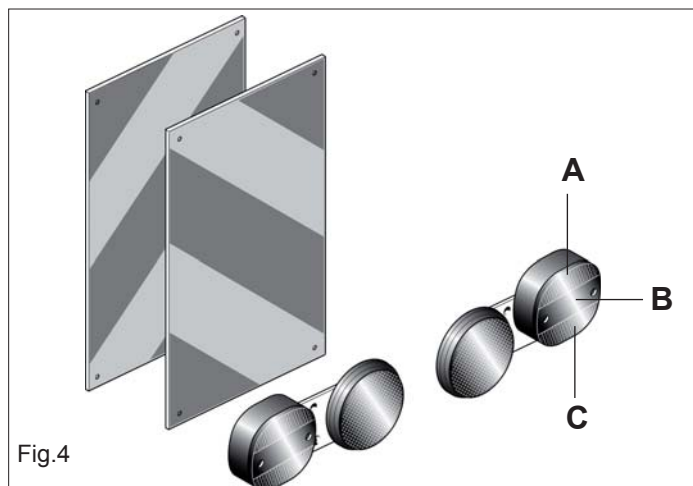

Fig.4
- 8) When the dimensions of carried or partially-carried equipment conceal the tractor's signalling and lighting devices, these must also be installed on the equipment itself, in conformity with regulations of the highway code of the country involved. When in operation make sure that the lighting system is in perfect working order. It is also important to remember that the correct signalling sequence of the headlights includes (Fig.4):